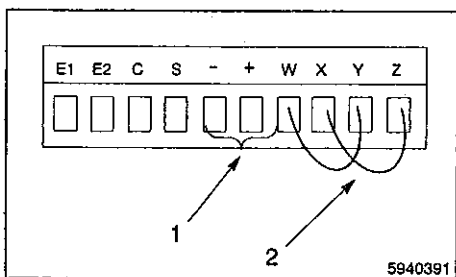

Fig. 5-10 Keypad Terminal Block
5. The Comm Port tests communications. Figure 5-10 illustrates how jumpers are placed in the keypad terminal block for testing.
When the Comm Port diagnostic is run, with keypad terminals W, X, Y, and Z jumpered as illustrated in Figure 5-10, a string of "plus" signs scrolls across the display. When either jumper is removed, the scrolling stops.